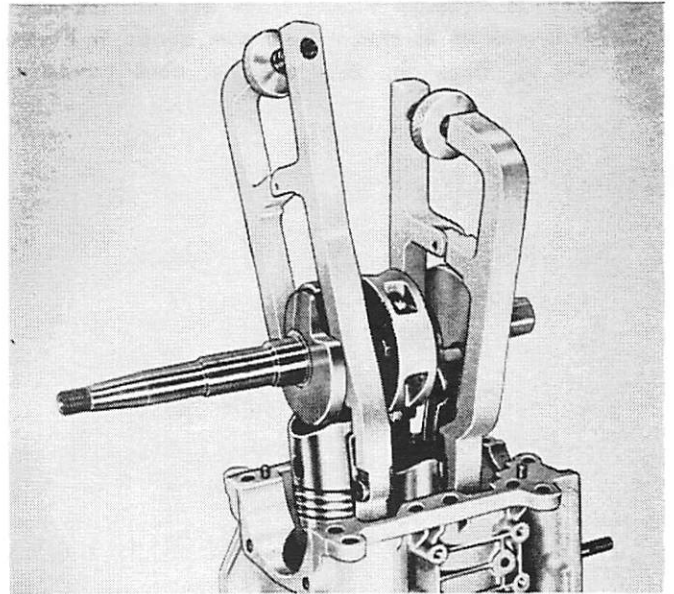

Figure 18. Gauging Crankshaft End Play
7. Install cylinder block to end cap screws, tighten and check for end play between crankshaft ball bearing journal thrust face and inner race of ball bearings. (Figure 18)